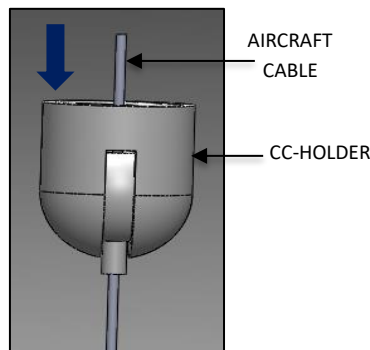

FIG. 10 – SS ROPE CABLE INSTALLATION
8. Feed the AIRCRAFT CABLES through the CC-HOLDERS. Adjust the AIRCRAFT CABLE to the desired length and place it aside as shown in FIG. 10.